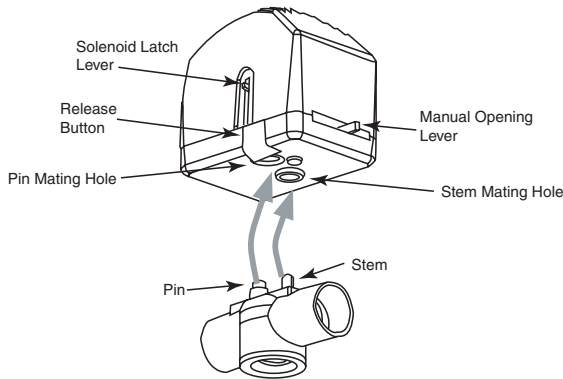

Figure 4. Three-Way Spring Return Valves
2. With the valve in mid-position, latch the solenoid by placing the manual solenoid latch lever in the "Up" position. Detach the actuator by depressing the release button and pulling it away from the valve body (Figure 4).
3. Finally, detach the actuator by depressing the release button and pulling the actuator away from the valve (Figure 4).
2. Align the valve body with the actuator to ensure the stem is inserted into the large mating hole on the bottom side of the actuator (Figure 4).